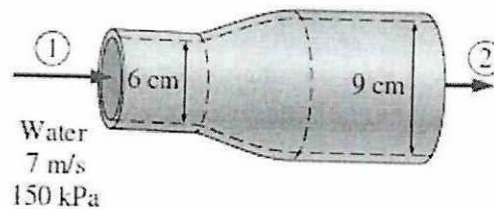

Figure Q3.1 Horizontal water pipe
- (c) A 6 cm diameter horizontal water pipe expands gradually to a 9 cm diameter pipe as shown in **Figure Q3.1**. The walls of the expansion section are angled 10° from the axis. The average velocity and pressure of water before the expansion section are 7 m/s and 150 kPa, respectively. By referring to **Figure Appendix A2**, analyze below: